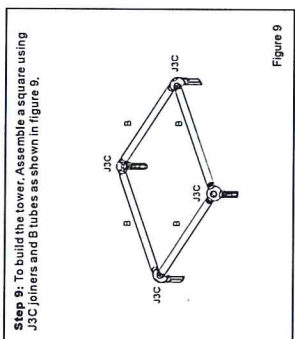

Figure 9
**Step 9:** To build the tower, Assemble a square using J3C joiners and B tubes as shown in figure 9.